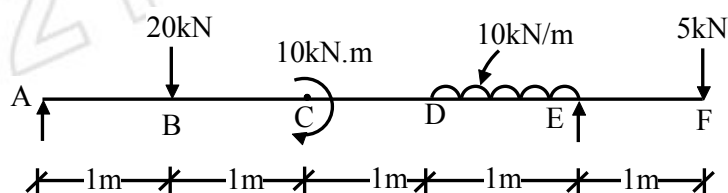

Fig. 3
9. Calculate slope at A and deflection at B for the beam shown in fig. 3 in terms of EI. 13